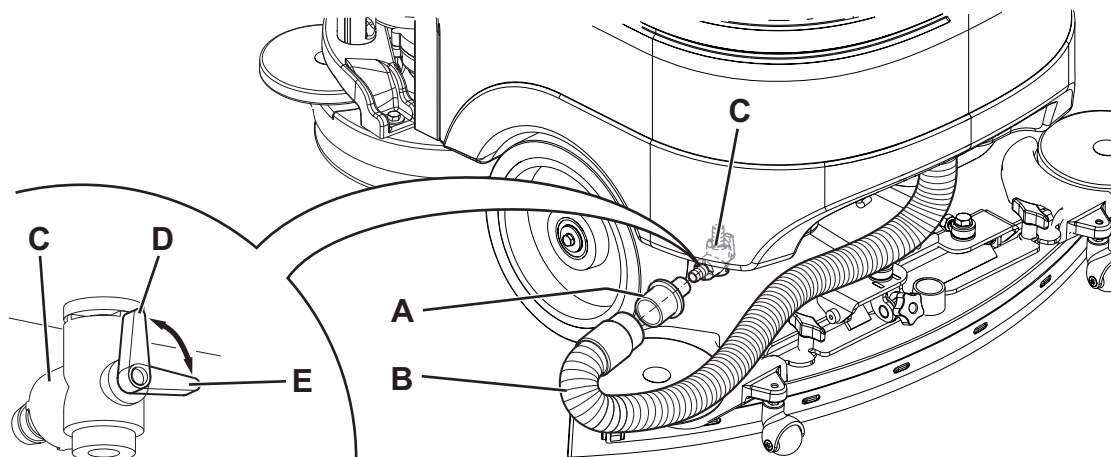

Figure 4
8. Remove the adapter (28) from its housing inside the battery compartment.
9. Install the adapter (A, Fig. 4) on the squeegee vacuum hose (B), then fasten it to the drain valve (C).
10. Turn the ignition key (58) to "I" and turn on the vacuum system with the switch (63).
11. Open the drain valve (C) to drain the tank (22).